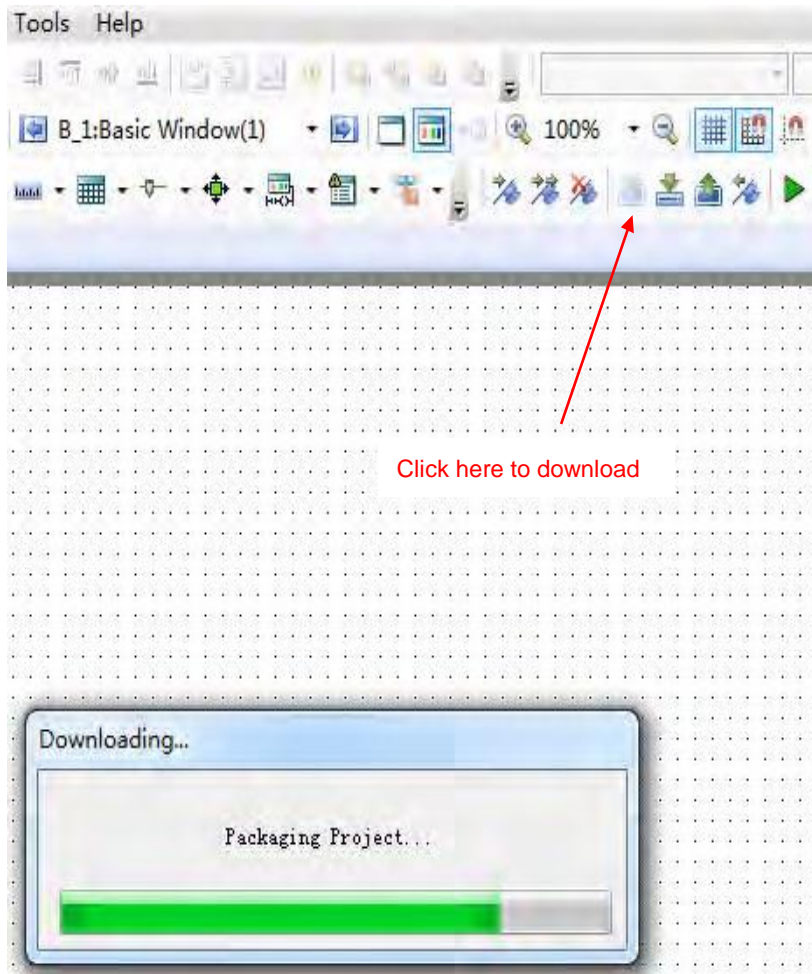

Fig. 25
① Switch on the power supply to the touch screen, select "Download" in the software, and wait till downloading is completed, as shown in Fig. 25.